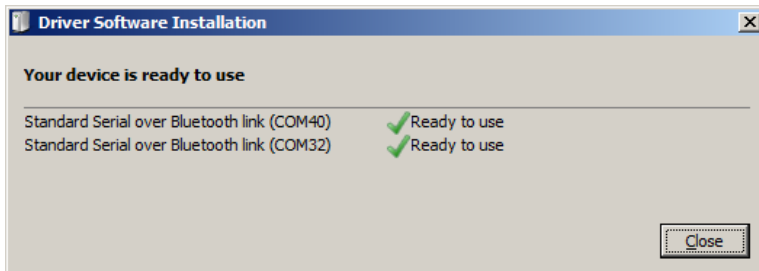

Figure 34: Virtual COM ports - ready to use
4. When the device is successfully added and the two virtual COM ports are ready to use, click **Close** (Figure 34).